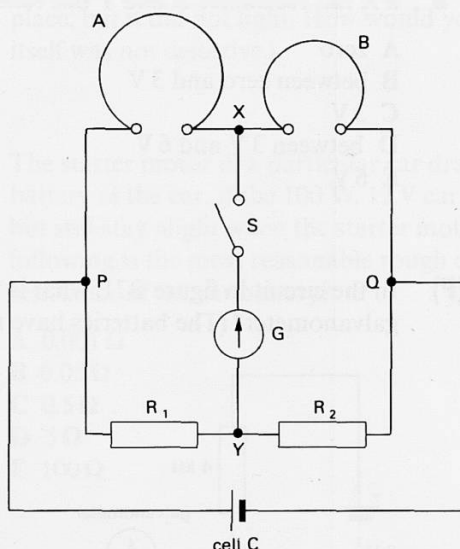

Figure B73
- 26(R)** Two resistance wires, A and B, made of different materials, are connected into a circuit with identical resistors  $R_1$  and  $R_2$  ( $R_1 = R_2$ ), a sensitive high-resistance galvanometer G, a cell C, and a switch S, as shown in figure B73.